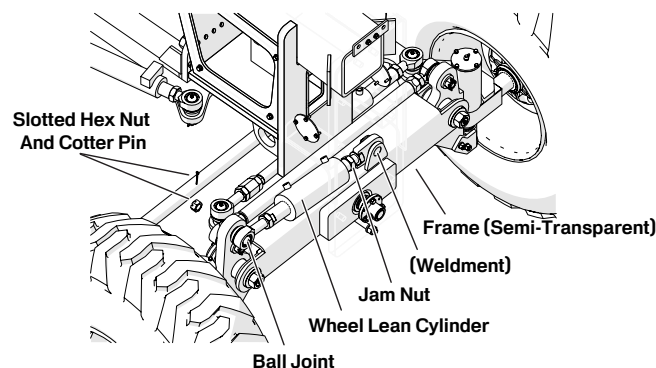

Figure 5-39. Wheel Lean Assembly
5. While supporting the wheel steering cylinder (**Figure 5-39**), remove the slotted hex nuts and cotter pins from the end connector.